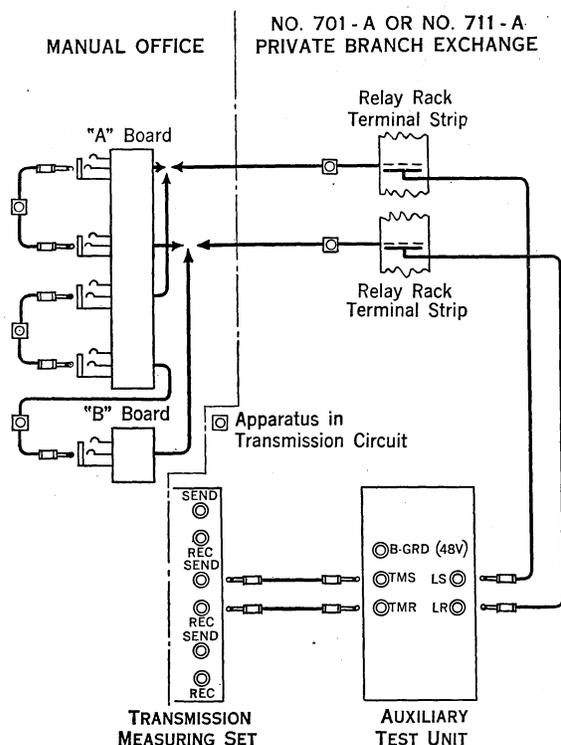

Figure 2
2.27 Figure 2 shows schematically the connections for the test.